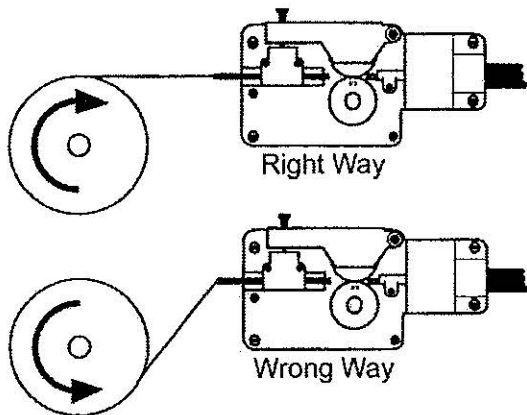

Figure 6. Wire Installation
4. Place the spool on the spindle in such a manner that when the wire comes off the spool, it will look like the top illustration in Figure 6. The welding wire should always come off the top of the spool into the drive mechanism.